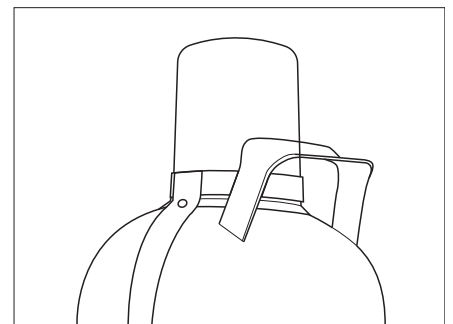

Fig. 50 Gas bottle during driving
- Place the protective hood onto the gas bottle (Fig. 50).